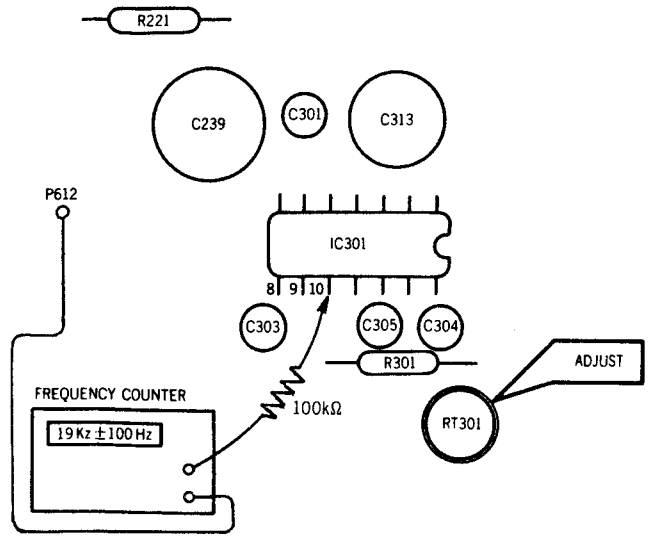

Fig. 4
- (1) Connect ground line to P612 as shown in Fig. 4.
- (2) Connect frequency counter to IC301- # 10pin as shown in Fig. 4.
- (3) Adjust RT301 for 19 kHz.